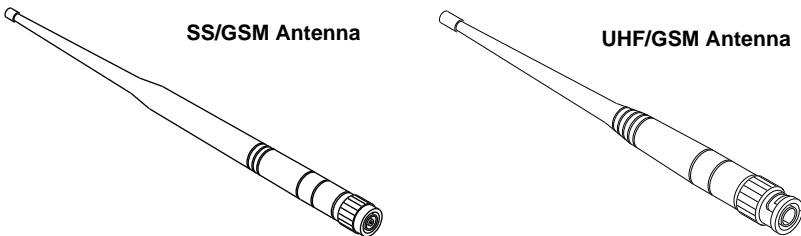

Figure 1-9. Modem Antenna
**The modem antenna** Spread Spectrum or UHF includes support for a GSM/GPRS modem (Figure 1-9 on page 1-22).